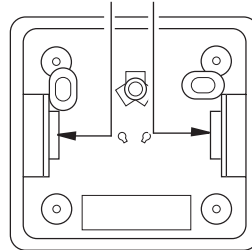

Figure 33 - Back View of Thermostat Base
5. Feed the electrical wires through the rectangular slots on each side of the base (see Figure 33).